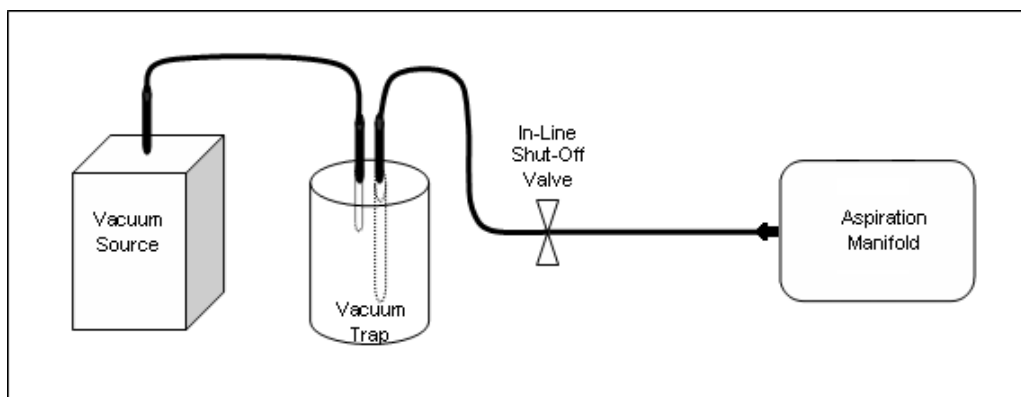

Figure 6: Vacuum System Connection
1. Connect the vacuum source to a vacuum trap (Figure 6).